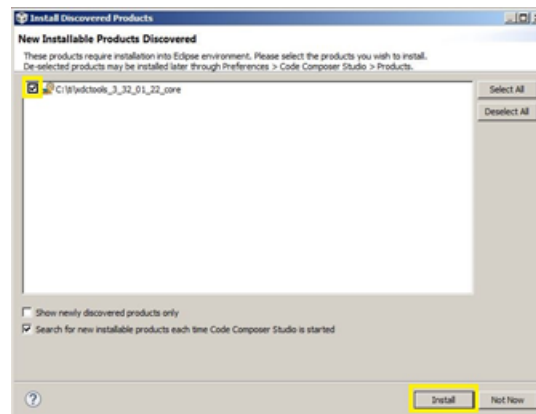

Figure 36. CCS Discovered Products
- Choose Add, then add the paths and choose Rediscover. After the rediscover, an Install Discovered Products window may appear. If the window appears, the new products have been discovered. If the products mentioned are in the list, select them and click Install (see Figure 36).